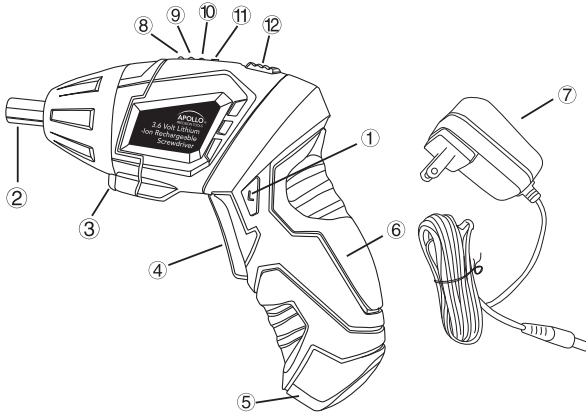

Figure 1
1. Plug the output cord of the charger into the socket ⑤ as shown in Figure 1.